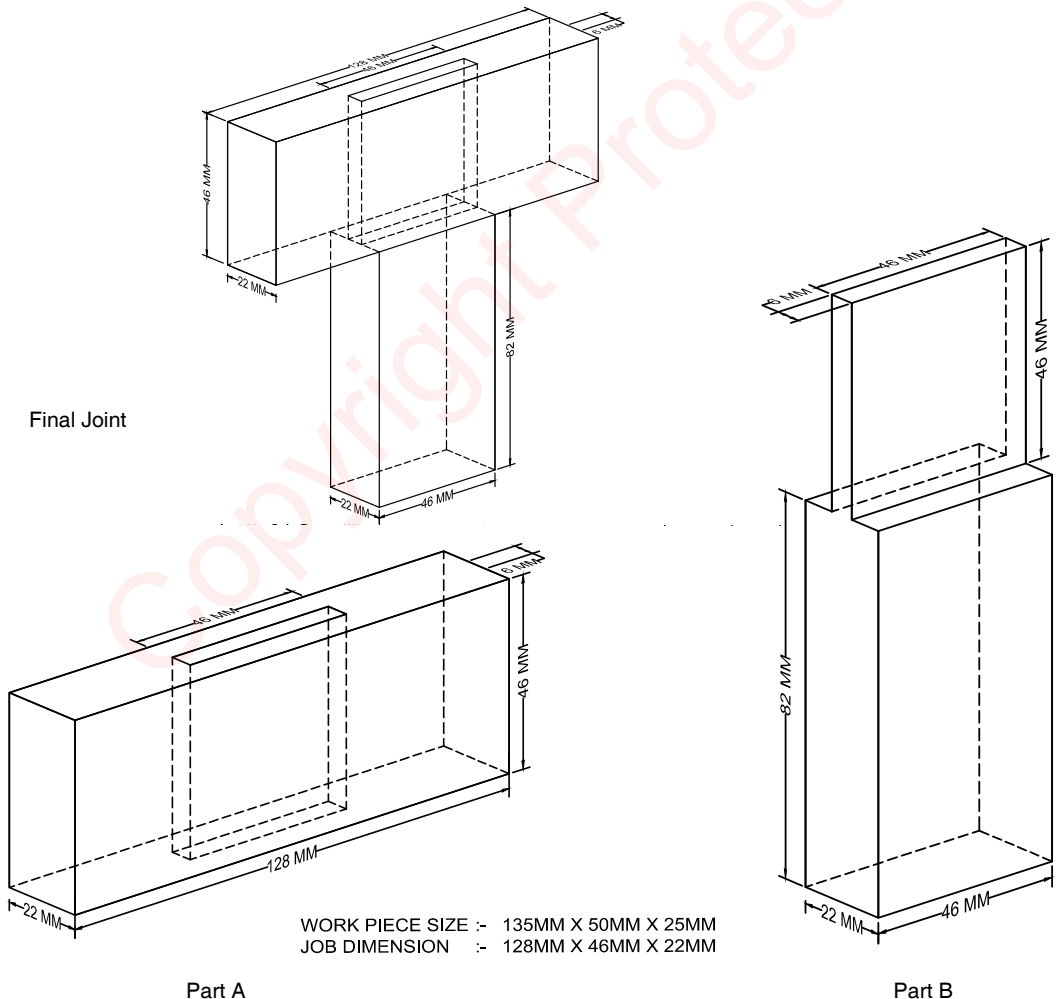

Fig.3.6: Job Dimensions for Mortise and Tenon Joint
6. Mark 'Part A' for the Mortise and 'Part B' for the Tenon according to the given dimensions as shown in Fig.3.6.
11. Join pieces 'Part A' and 'Part B' firmly as per Fig.3.6.